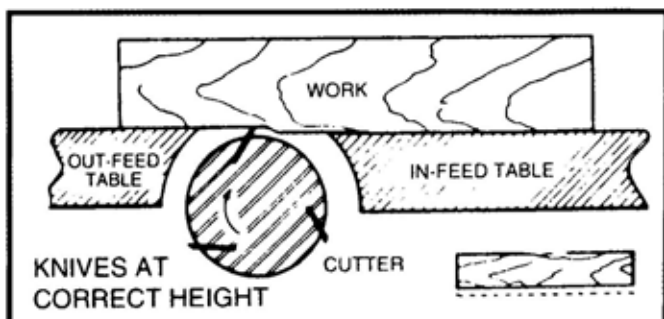

Fig. 46
10. As a final check, run a piece of work slowly over 6 to 8 inches over the knives. The work should rest firmly on both tables as shown in Fig. 46, with no open spaces under the finished cut.